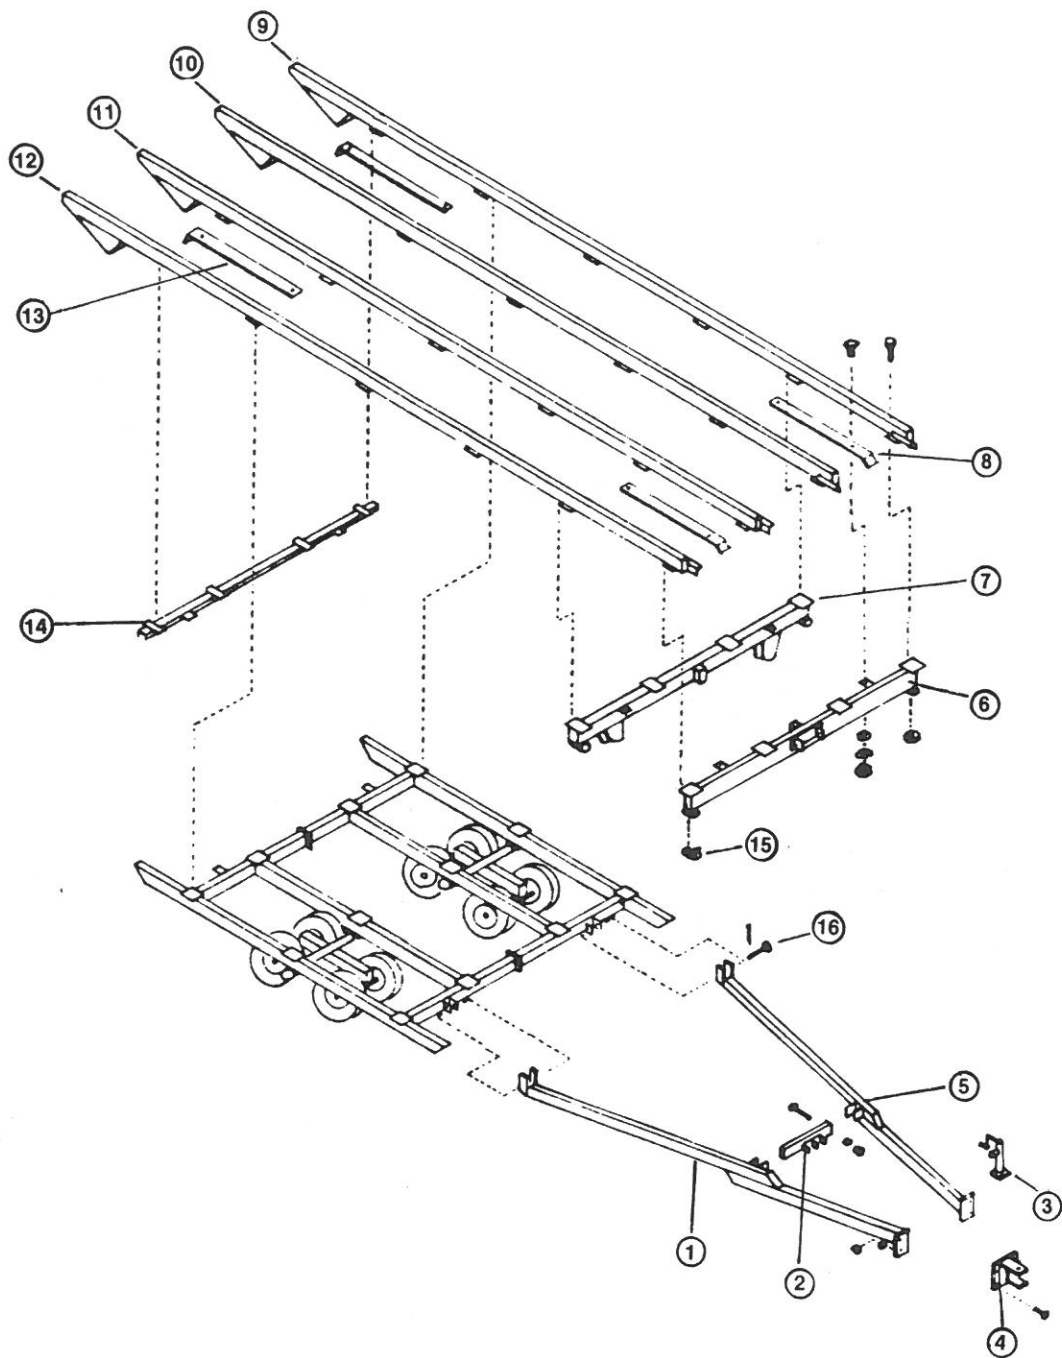

FIGURE 2. A-Frame Hitch and Rail Assembly
1. With left and right sub frame assemblies in an upright position, bring each sub frame together at bolting plates. See figure 2. With aligning bar align holes; Secure with $\frac{1}{2} \times 1\frac{1}{2}$ bolt, lockwasher, and nut.
1. Refer to figure 2. Locate left and right A frame hitch members #1, #5, Cross brace #2, hitch #4, and Jack #3.